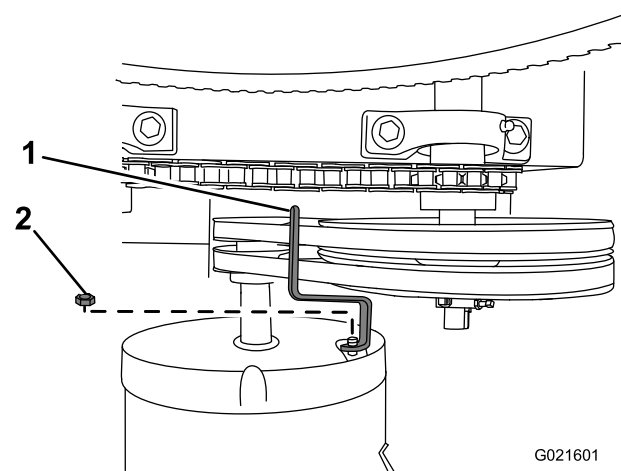

Figure 38
3. Remove the nut that secures the belt guide to the motor, and remove the belt guide (Figure 38).
7. Loosely secure the belt guide to the motor (Figure 38) with the bolt that was removed in step 3 of Removing the Belts (page 25).